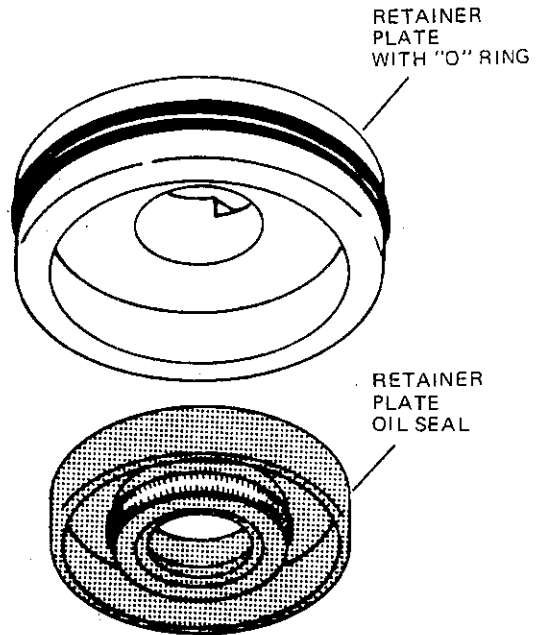

Figure 18. View of retainer plate and oil seal.
- X. Use a flat-tip screwdriver to remove the retainer plate oil seal from the retainer plate (Figure 18).
- A. Press a new retainer plate oil seal into the retainer plate with the lips of the seal facing out, as shown in Figure 18.